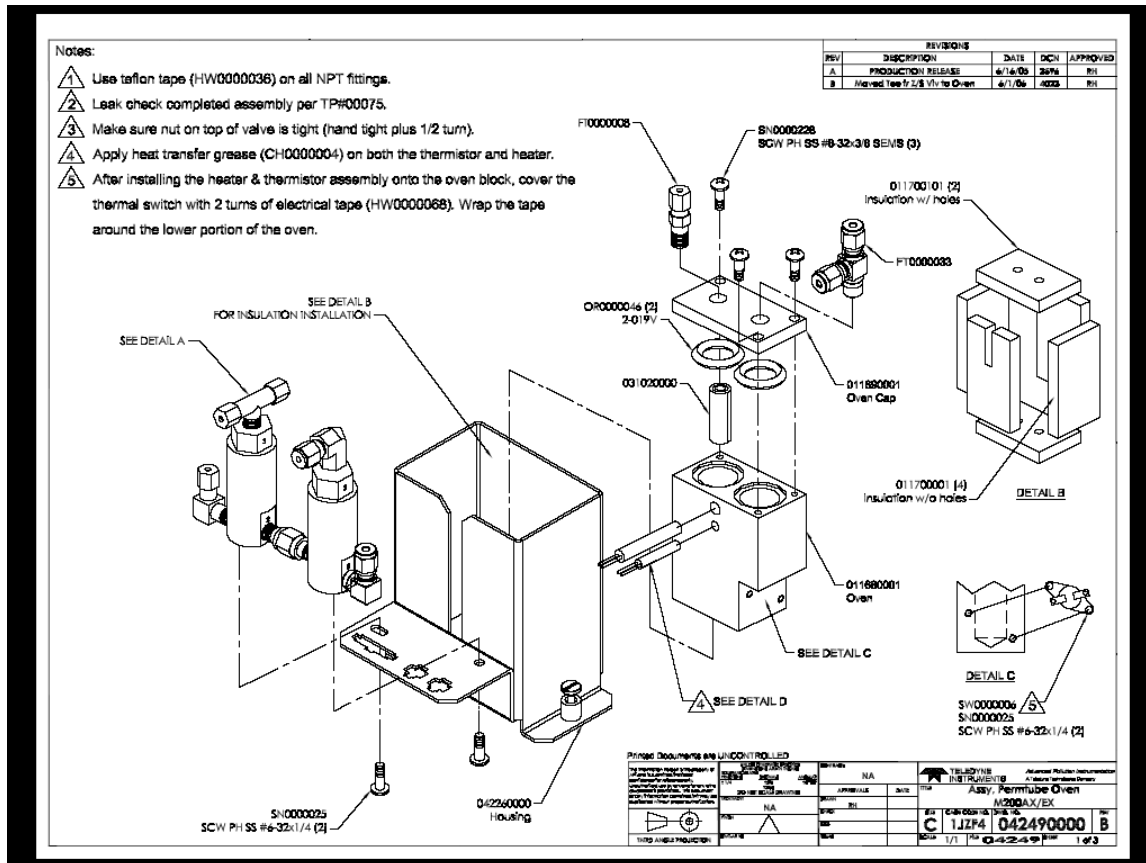

Figure 1
2. Pull foam up from permeation tube oven top, remove 3 mounting screws on top of perm tube oven and remove oven cap, refer to Figure 1.